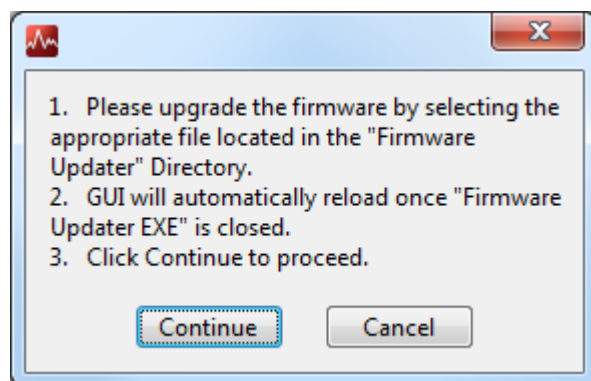

Figure 48. PC Application Firmware Upgrade – 1
- A pop-up window opens as shown in Figure 48. Follow the instructions to continue to *Firmware Upgrade* or to cancel the operation.